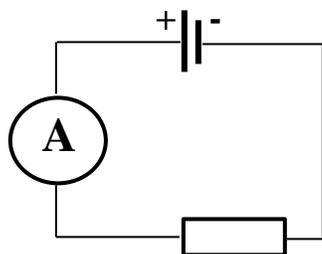

Figure 3. Schematic set up of the circuit with an ammeter, a battery (with + and - labeled), and a resistor (the box).
The device designed to measure an Electric Current (I) is called an *ammeter*. The Ammeter can be a part of a Multimeter, a device designed to measure multiple quantities including an Electric Current. To ensure that the same current passes through both the resistor and the ammeter, the ammeter is always inserted into the circuit next to the resistor by **disconnecting and reconnecting wires** as shown on Figure 3. The current flows from “+” terminal (higher potential) of the battery into the Ammeter, then it flows out of the Ammeter to enter the resistor. Therefore, the red terminal of the ammeter should be connected to a higher potential (“+” end of the battery) and black terminal of the ammeter should be connected to the resistor.